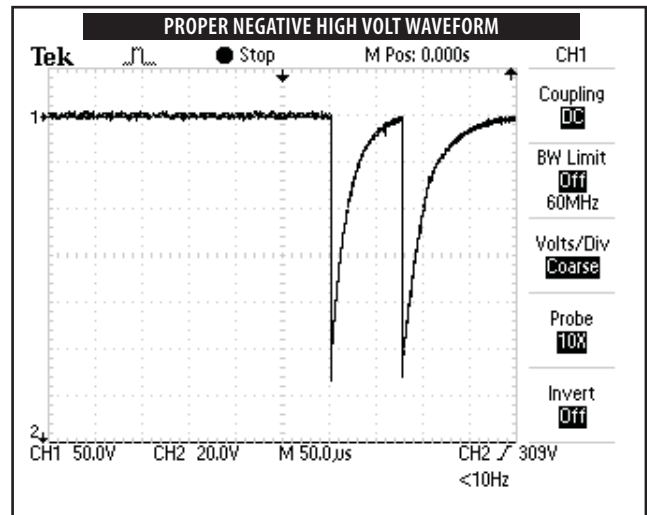

FIGURE 5.8
7. Compare waveform on scope to **Figure 5.8**.
1. Waveforms on scope the same as **Figures 5.8 and 5.9**. Amps do not exceed 1.5.